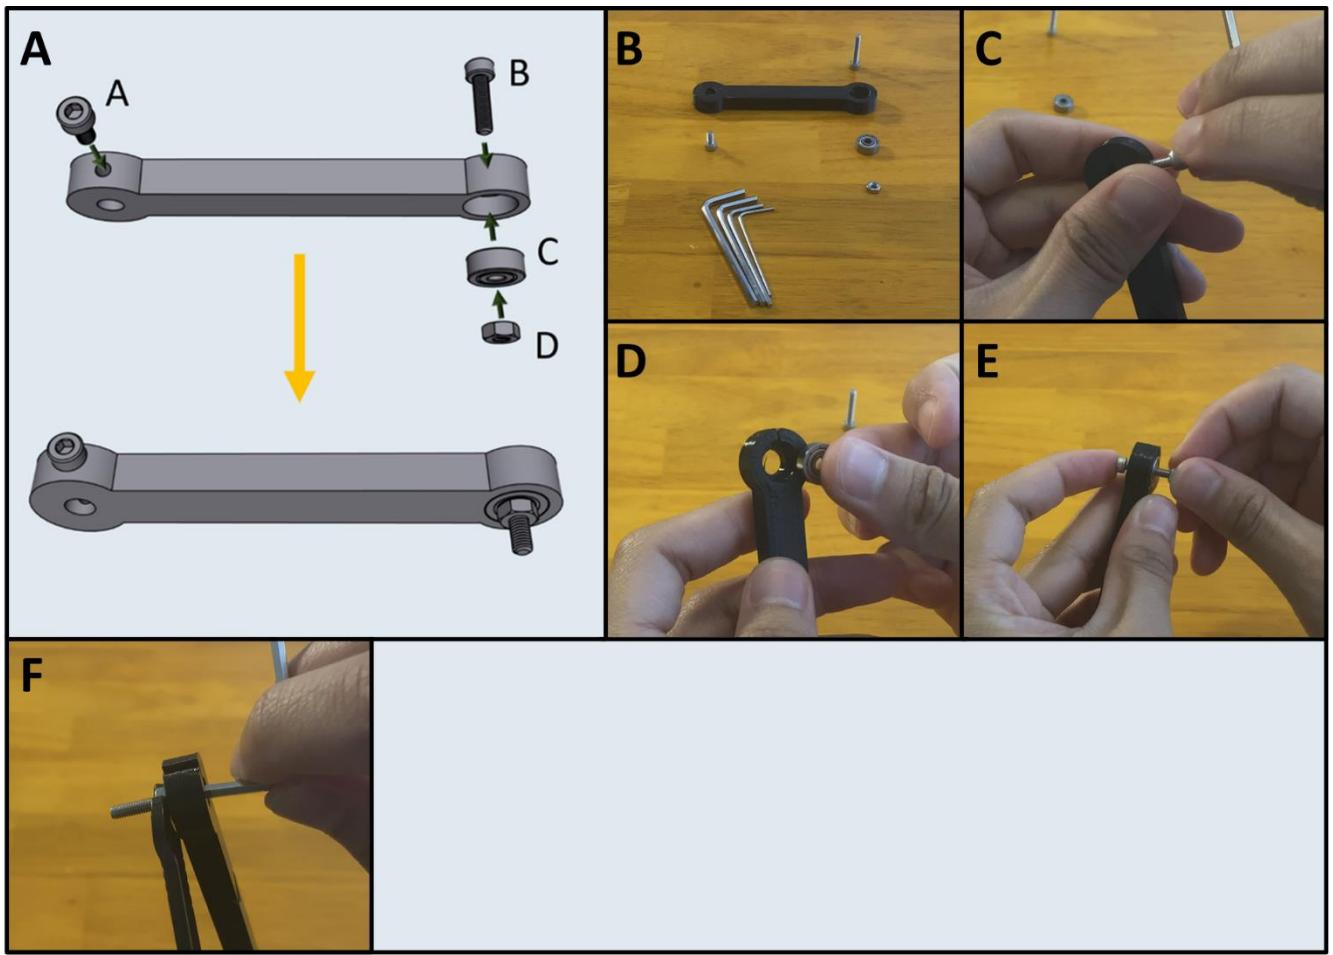

Figure 20a-f: The procedure for assembling Arm One.
Figure 20a gives an overview for the assembly of Arm One. Gather (A) an M3 x 6 screw, (B) an M3 x 12 screw, (C) a 623-2Z ball bearing and (D) an M3 hex nut. After gathering the necessary items (Fig 20b) thread the M3 x 6 screw into the side of Arm One (Fig. 12c). Press fit the bearing into the other end of the arm (Fig. 20d) and pass the M3 x 12 screw through the bearing and thread the M3 hex nut onto the other end (Fig. 20e). Tighten the M3 x 12 screw by holding the M3 nut with a plier (Fig. 20f).